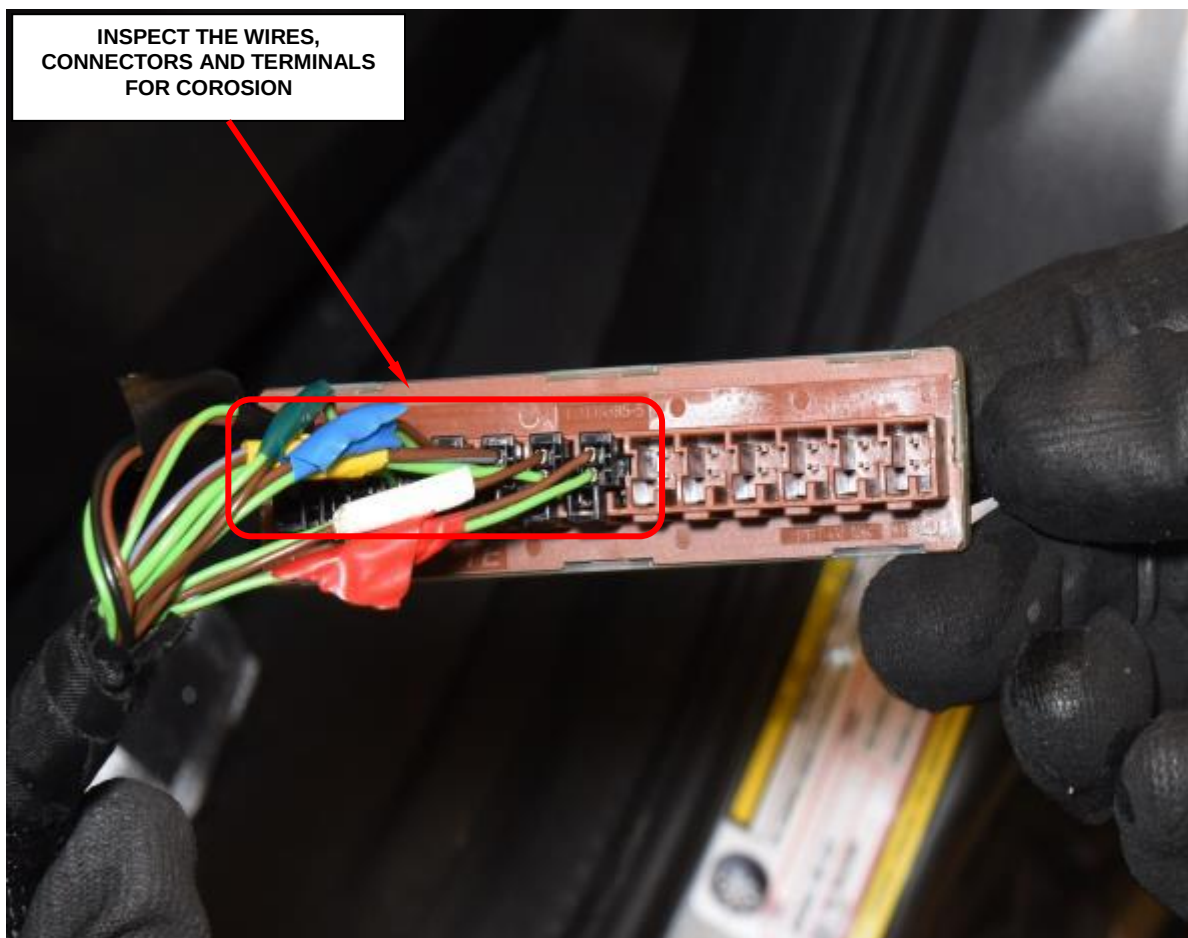

Figure 5 – Inspect for Corrosion
11. Inspect the CAN-C Bus Connector to assure there is no corrosion (Figure 5).